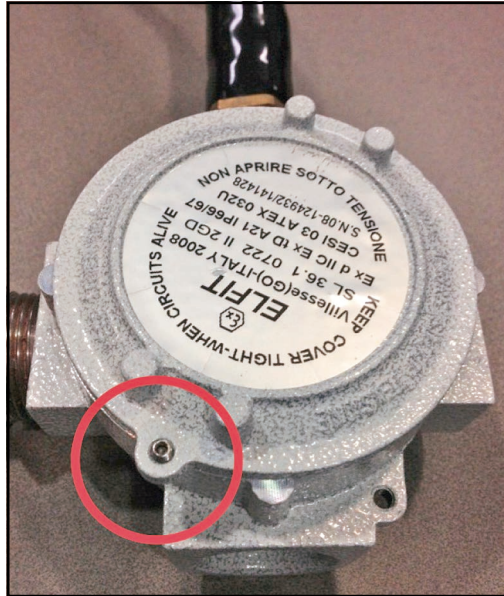

Figure 13: Junction Box Set Screw
10. Place the cap of the junction box over the XAMP and tighten the cap until the junction box is firmly closed. Engage the set screw (see *Figure 13* below) to secure the cap in place.